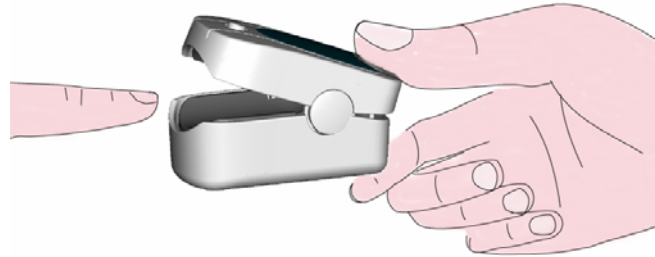

Figure 3 Put finger into the Oximeter
1. Open the clip as shown in Figure 3.